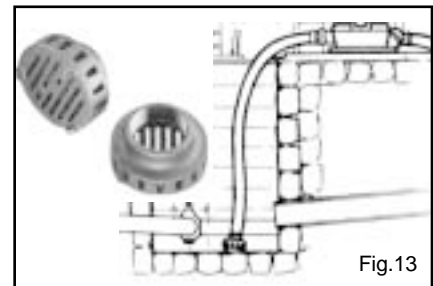

Fig.13
- **USING A STRAINER ON THE INLET** - If the solids are too large they will block the inlet or get stuck in the suction line. The end of a suction hose can become attached to a flat surface cutting off all flow. Using an Edson strainer will prevent these conditions. Order an Edson Shatter proof Bronze Strainer 111BR - 200 or 111BR - 150 See Fig.13